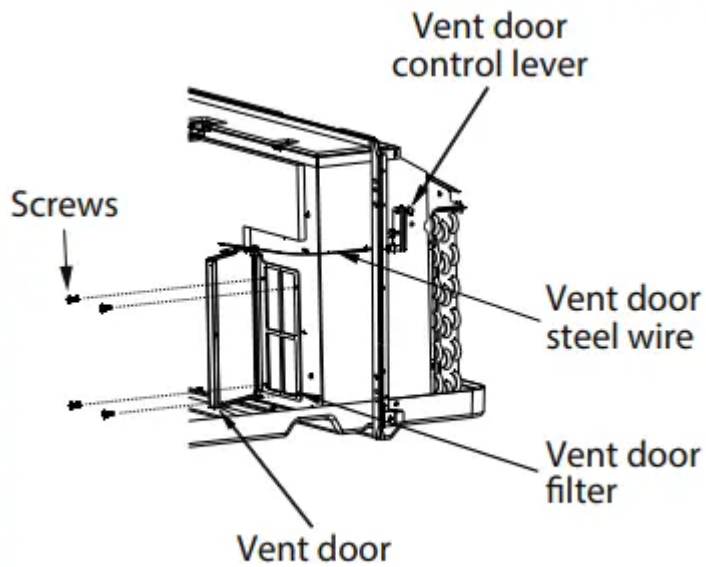

Fig. 16
- Rotate the vent control lever to open the vent door. (see Fig. 16)
- Remove four screws from the vent door filter. (see Fig. 16)
- First pull out the vent door steel wire from the hole of the vent door, then take off the vent door and filter. (see Fig. 16)